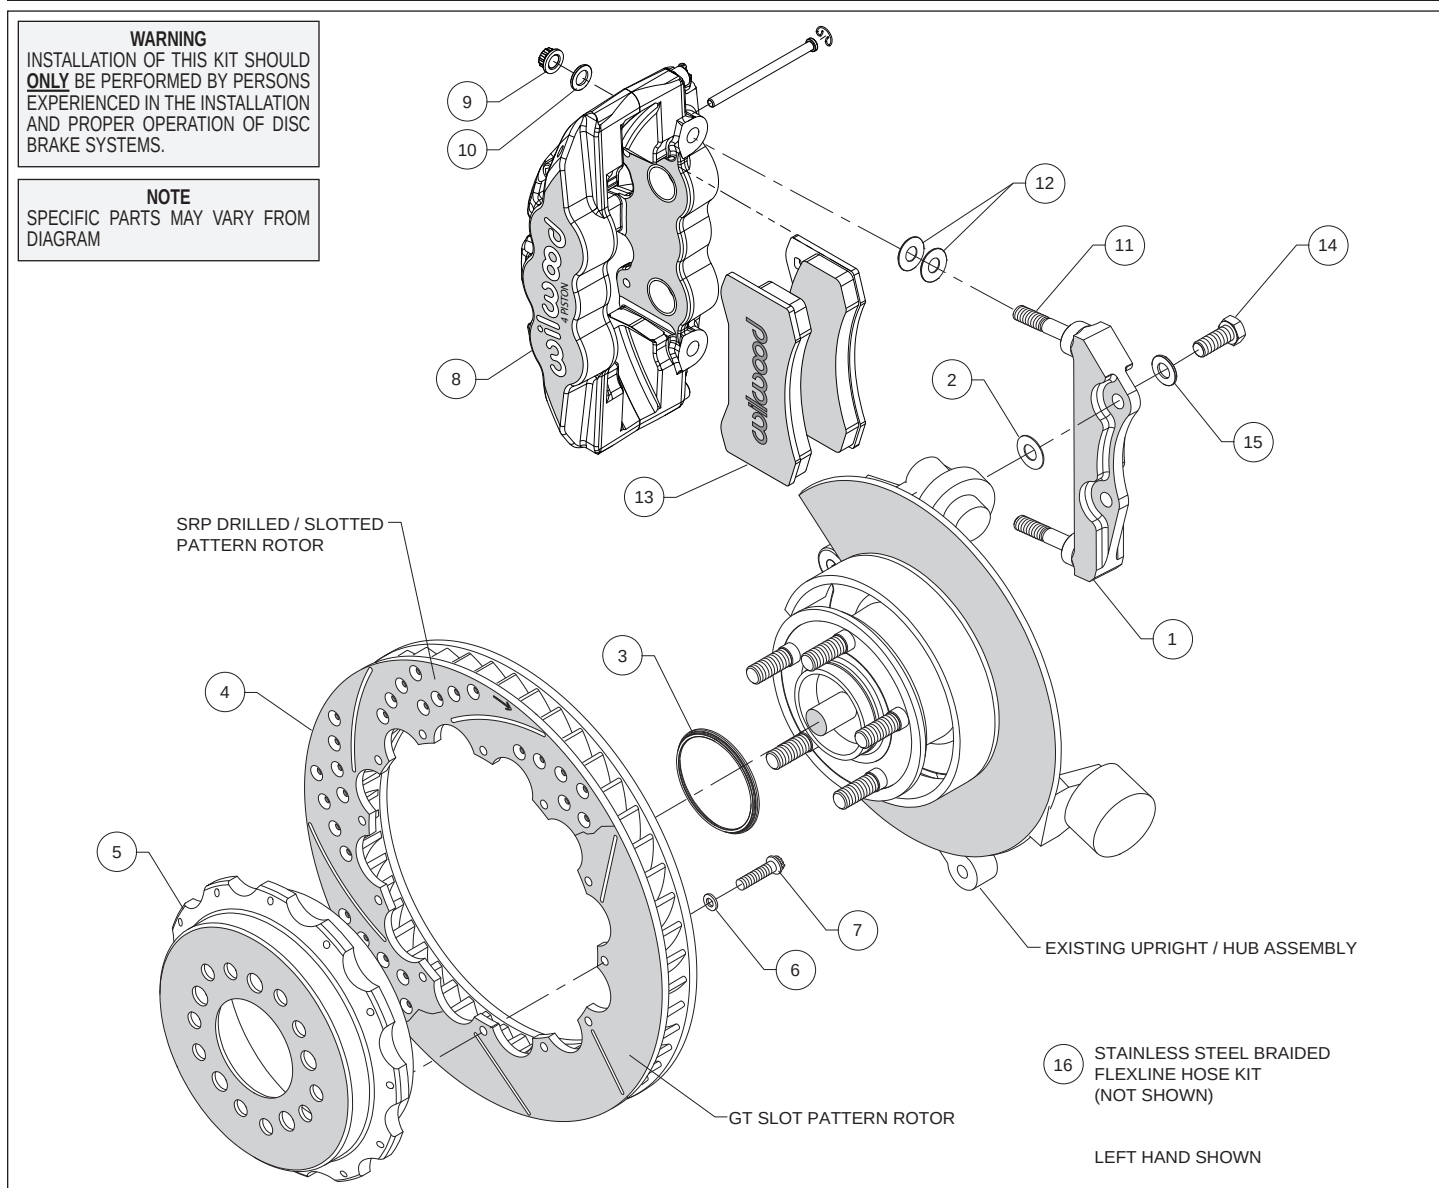
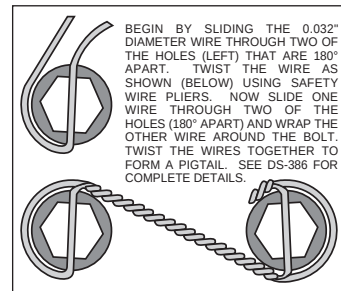

Figure 1. Typical Installation Configuration
Figure 3. Safety Wire Diagram
Assembly Instructions (numbers in parenthesis refer to the parts list and Figure 1 on the preceding pages):
- The caliper mount bracket (1) should initially be installed with clean, dry threads on the mounting bolts. Orient the bracket as shown in Figure 1 and install using bolts (14) and washers (15), Figure 1. Initially place one .033" thick shim (2) on each bolt between the bracket and upright, Figure 1. Temporarily tighten the mounting bolts. **NOTE:** *The bracket must fit squarely against the mount bosses on the upright.* Inspect for interference from casting irregularities, machining ridges, burrs, etc. Later, after the caliper alignment has been checked, the mount bolts will be secured using red *Loctite*® 271.
- Orient the rotor (4) and the hat (5) as shown in Figure 1 and Photo 1. Attach rotor to hat using bolts (7) and washers (6). Using an alternating sequence, apply red *Loctite*® 271 to the threads and torque bolts to 155 in-lb. For an added measure of security, the bolts may be safety wired using standard 0.032 inch diameter stainless steel safety wire as shown in Figure 3. Please refer to Wilwood's data sheet DS-386 (available at www.wilwood.com/Pdf/DataSheets/ds386.pdf) for complete safety wire installation instructions.
- Slide the rotor registration adapter (3) onto the axle register on the axle hub with the smaller O.D. facing outward, Photo 2. Slide the hat/rotor assembly onto the axle hub. **NOTE:** *The hat must fit flush against the axle hub flange or excessive rotor run out may result.* Install three lug nuts (finger tight) to keep the hat/rotor assembly in place while continuing with the installation.
- Lubricate the caliper mounting studs (11) with lightweight oil. Initially place two .030" thick shims (12) on each stud between the caliper and the bracket, as shown in Figure 1 and Photo 3. Mount the caliper (8) onto the bracket (1) using lock nuts (9) and washers (10), Figure 1. Temporarily tighten the lock nuts and view the rotor through the top opening of the caliper. The rotor should be centered in the caliper, Photo 4. If not, adjust by adding or subtracting shims (2) between the bracket and the upright. Always use the same amount of shims on each of the two mounting bolts. Once the caliper alignment is correct, remove the bracket mounting bolts one at a time, apply red *Loctite*® 271 to the threads, and torque to 60 ft-lb.
- Remove the two pad retaining pins from the caliper (8) by carefully popping out the pin retaining clips and sliding out the pins. Insert the brake pads (13) into the caliper from the bottom, Figure 1 and Photo 5. With the friction material facing the rotor, secure the brake pads in place with the pad retaining pins and clips, Photo 6. Reinstall the caliper onto the caliper mounting bracket and temporarily tighten the lock nuts. Check that the top of the brake pad is flush with the outside diameter of the rotor, Photo 7. If not, adjust by adding or subtracting shims (12) between the caliper and the bracket. After the caliper pad height is set, torque the caliper lock nuts (12) to 47 ft-lb.